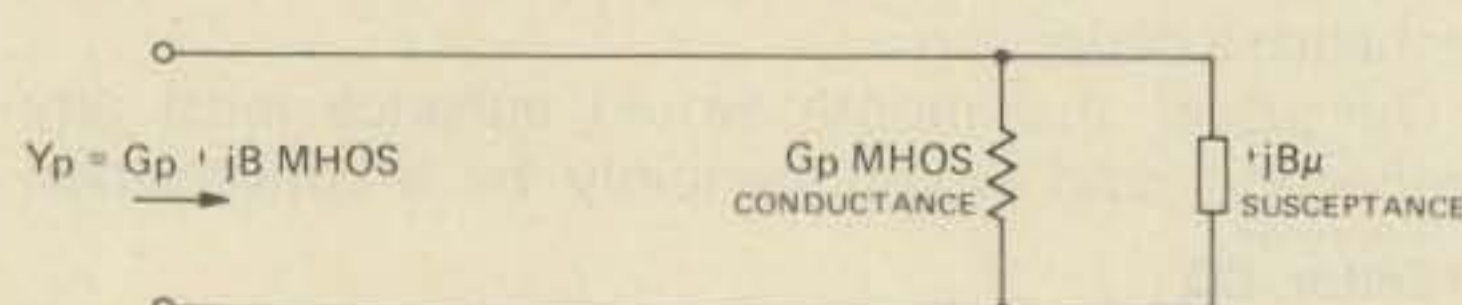

Fig. 2 -  $Y_p = G_p \pm jB$  mhos defines parallel connected conductance and susceptance.
Here  $Y_p$  represents a parallel combination of conductance and susceptance, as shown in fig. 2.
There are equations to transform impedance into admittance and *vice versa*; I will derive these in the Appendix. For the moment, it is enough to say that the 821 admittance instrument measures the value of the two components of admittance, as shown in fig. 2 and equation (4).